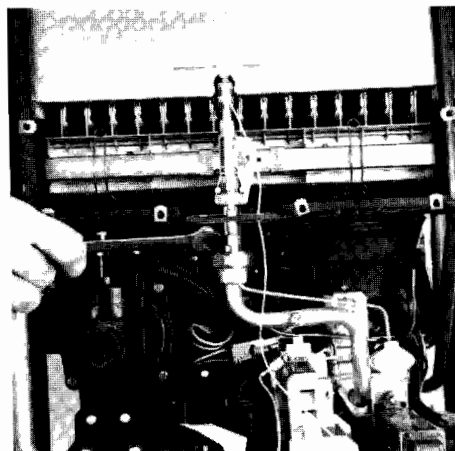

Fig. 42
8.1.3 It is also recommended that the air be purged from the pilot gas supply pipe (small diameter aluminium pipe). After ensuring that the boiler is isolated from the electrical supply: Disconnect the supply pipe from the pilot injector tube by unscrewing nut, using a 10 mm spanner (refer to Fig. 42).